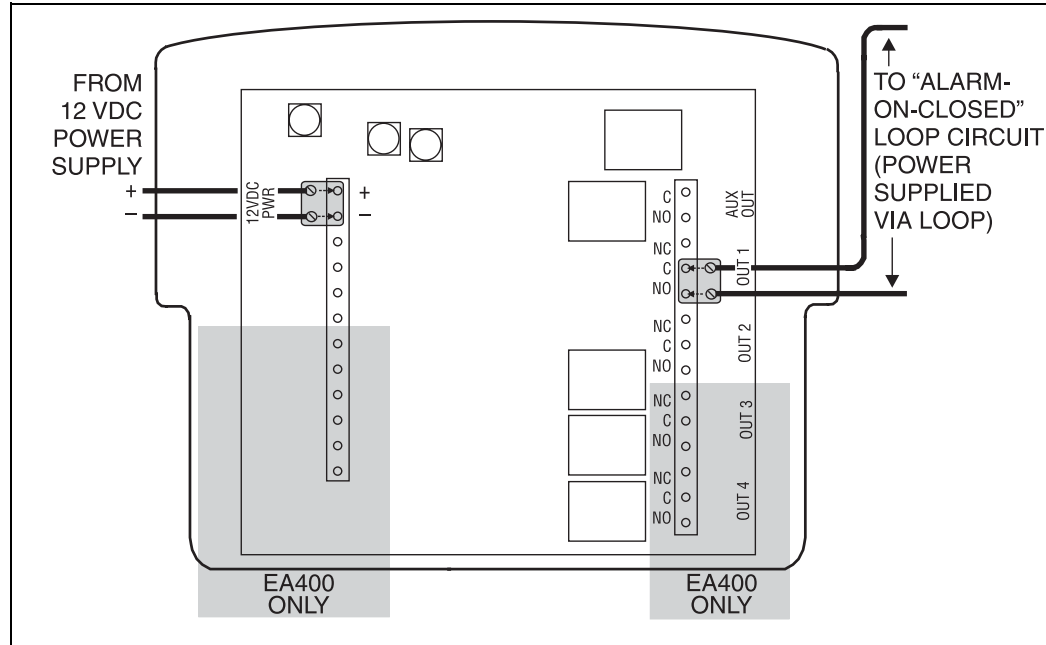

Figure 8. Typical Alarm Loop Wiring Configuration (External Power)
3. Connect the alarm loop leads to the Terminal Block Adapter. Attach the adapter to terminals C and either NC or NO on the appropriate circuit board header connector. See Figures 8 and 9.
Figures 8 and 9 show typical alarm loop wiring configurations. Figure 8 shows an alarm loop where alarm power is derived from the alarm loop. Figure 9 shows an alarm loop where alarm power is derived from the power supply feeding the EA200 / EA400.